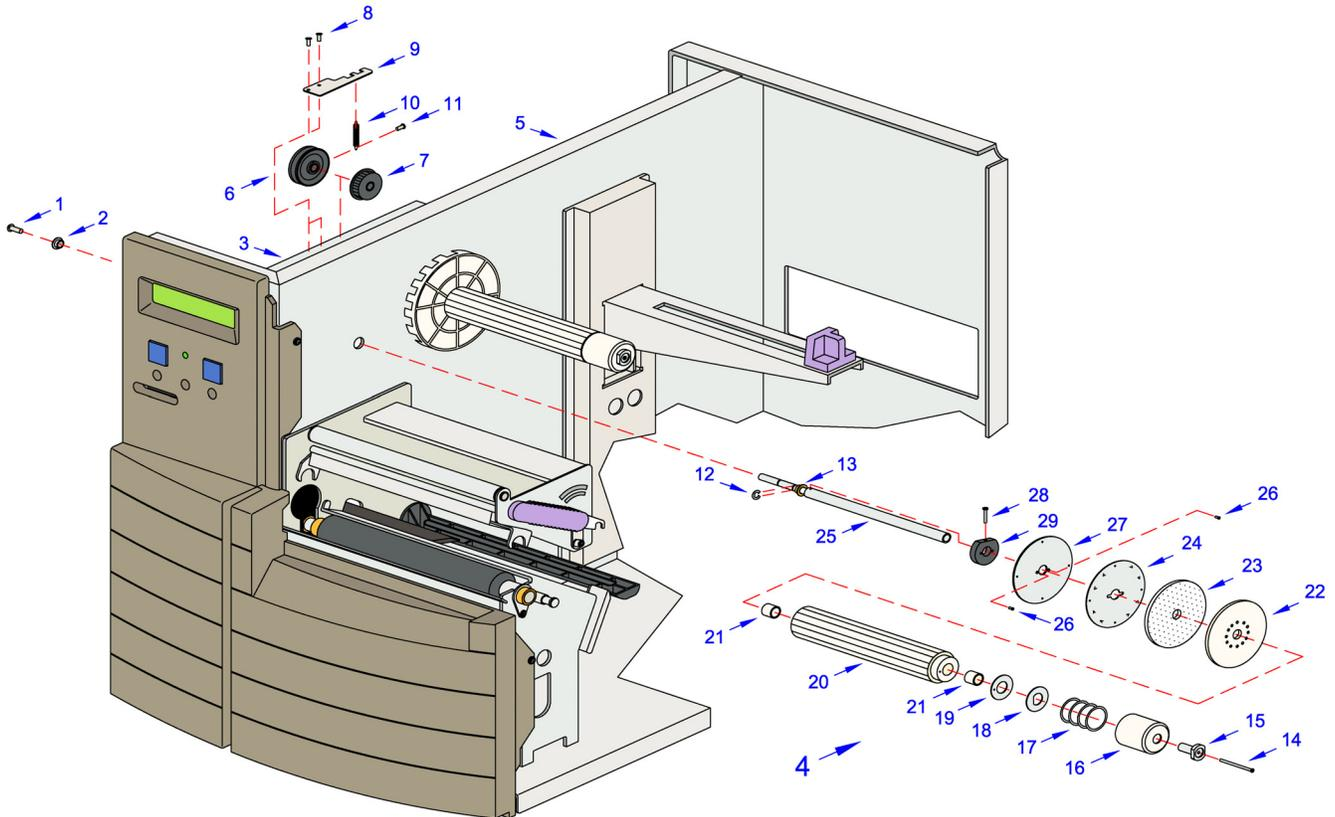

Figure 7-5, Ribbon Rewind Spindle Replacement
3. Remove screw (1, Figure 7-5) and bearing (2) from ribbon spindle bracket (3).
4. Withdraw ribbon rewind spindle assembly (4) from the printer's center frame (5) freeing pulleys (6) and (7).